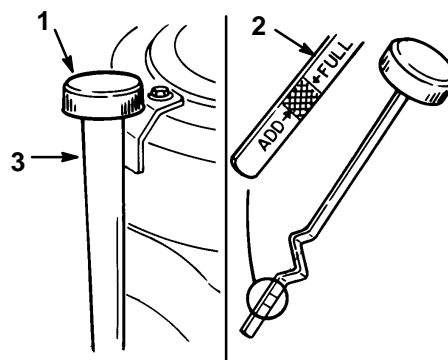

Figure 18
3. Clean around the oil dipstick (Fig. 18) so dirt cannot fall into the filler hole and damage the engine.
4. Unscrew the oil dipstick and wipe the metal end clean (Fig. 18).
5. Slide the oil dipstick fully into the filler tube, do not thread onto tube (Fig. 18). Pull the dipstick out and look at the metal end. If oil level is low, slowly pour only enough oil into the filler tube to raise the level to the “FULL” mark.